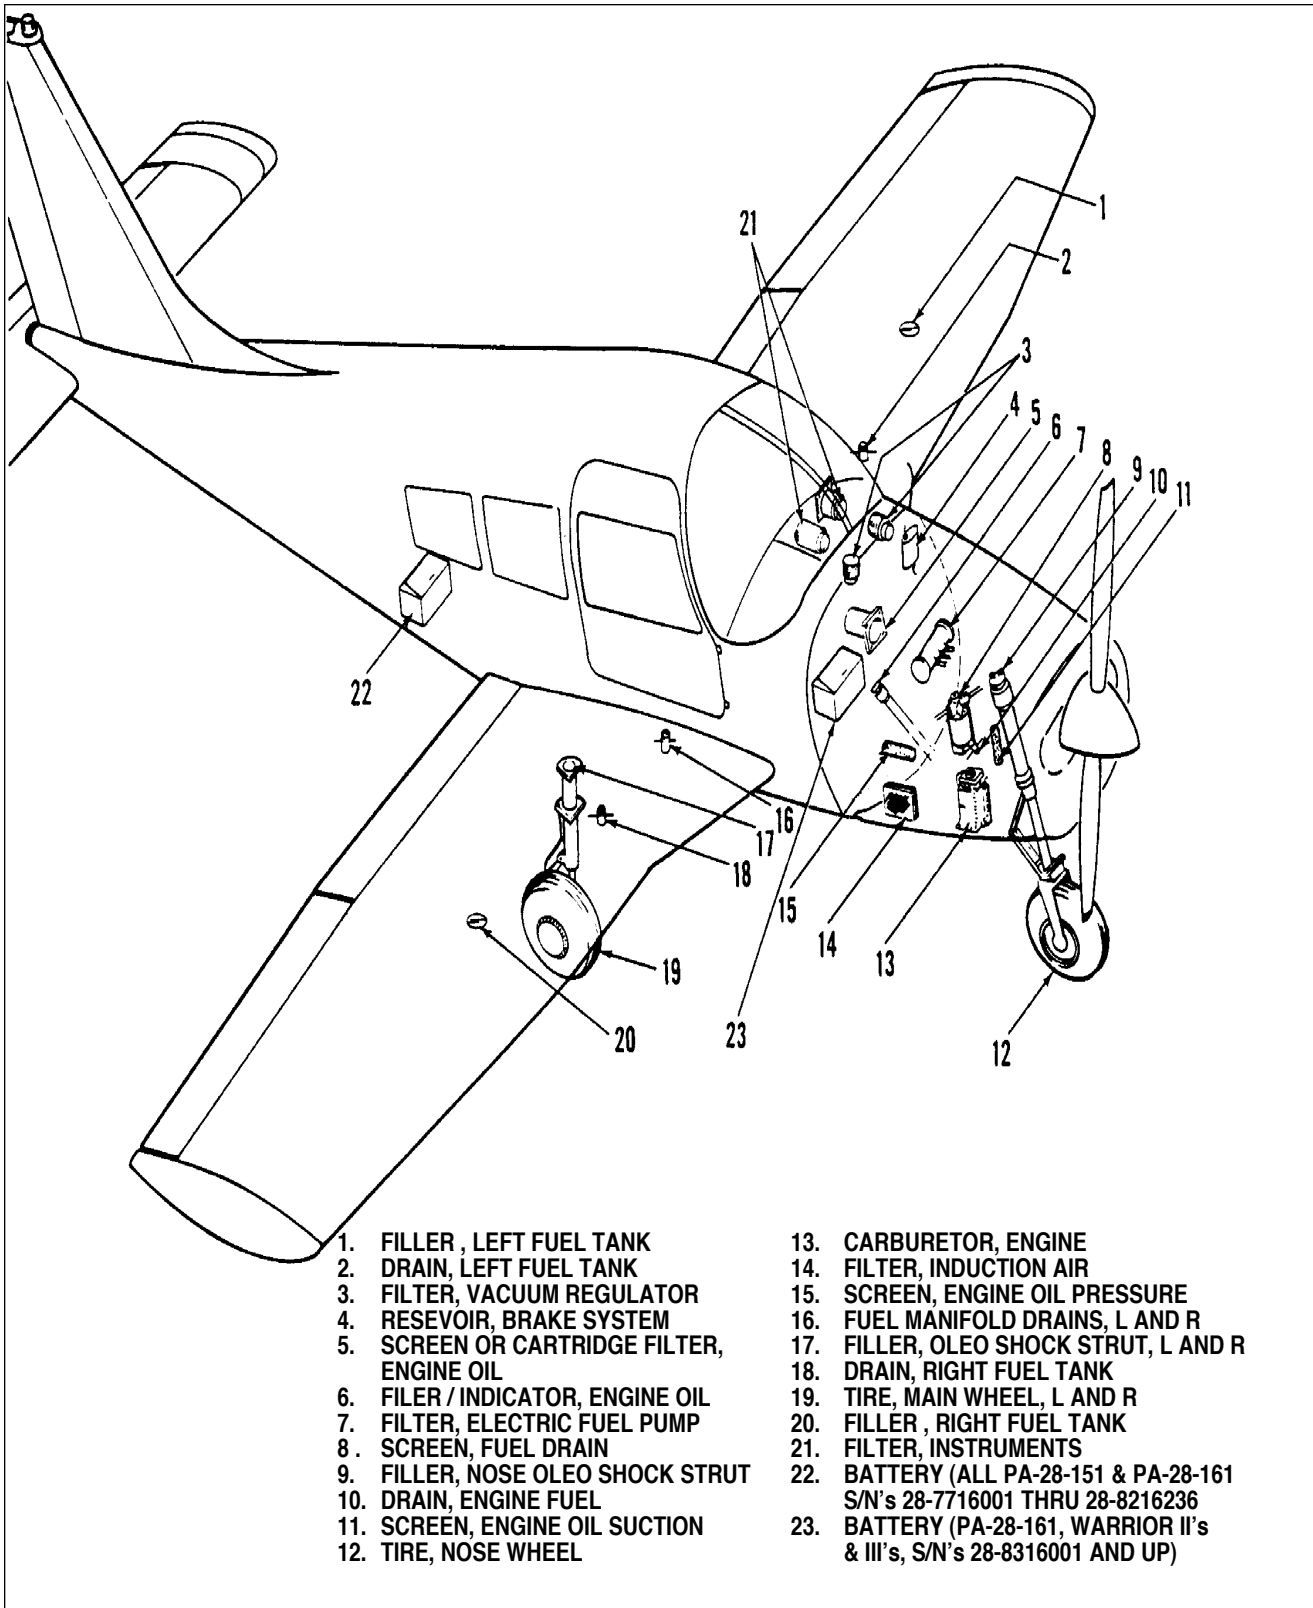

Figure 2-8. Servicing Points
- 2-30. **INTRODUCTION TO SERVICING:** (Refer to Figure 2-8.) Servicing the airplane includes the replenishment of fuel, oil, hydraulic brake fluid, tire pressures, lubrication requirements and other required items.